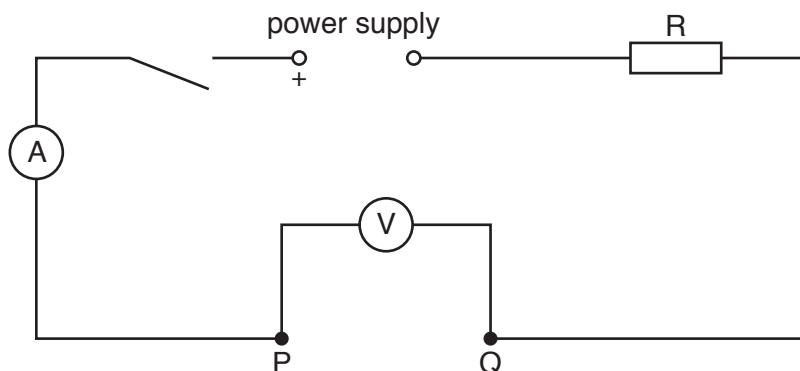

Fig. 2.1
- Before the start of the experiment and at the changeover, the Supervisor should set up the circuit as shown in Fig. 2.1. The ends of the connecting leads from the voltmeter should be labelled P and Q. The connections at P and Q should allow further connections to be made. A further six connecting leads should be available for candidates to connect the filament lamps to the circuit. Crocodile clips may be used to connect leads to the lamp holders, if required.